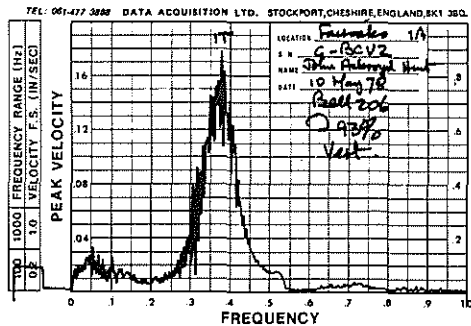

Fig. 7
b. Agusta Bell Jet Ranger. (Fig. 7). This card, taken in the cockpit, shows a seriously out-of-balance tail rotor. As the analyser was printing the engineer said, "Don't bother to look at the tail rotor. It's perfectly O. K." We didn't argue. We just balanced it.